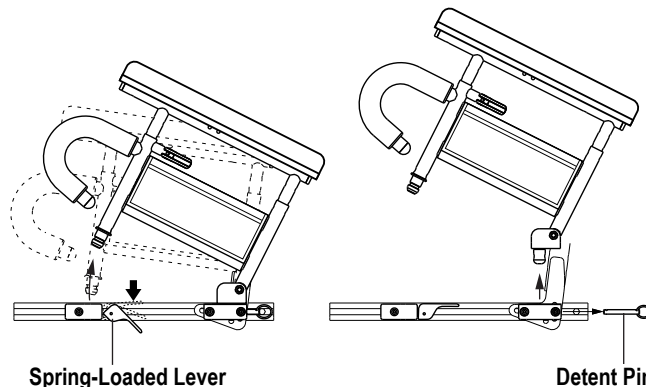

Figure 10. Two Post Armrest Removal and Installation
The height adjustment range for the Two Post Armrest is 9–13 in. (22.9–33 cm) in 1-in. (2.54-cm) increments. This range is measured from the top of the seat rail to the top of the arm pad. You can also flip up the armrests or remove them for transfer. **See figure 10.**
1. Push the spring-loaded lever downward and pull up on the front of the armrest. **See figure 10.**
2. Remove the detent pin from the back of the seat. **See figure 10.**
1. Set the rear of the armrest into the rear seat receiver and install the detent pin. **See figure 10.**